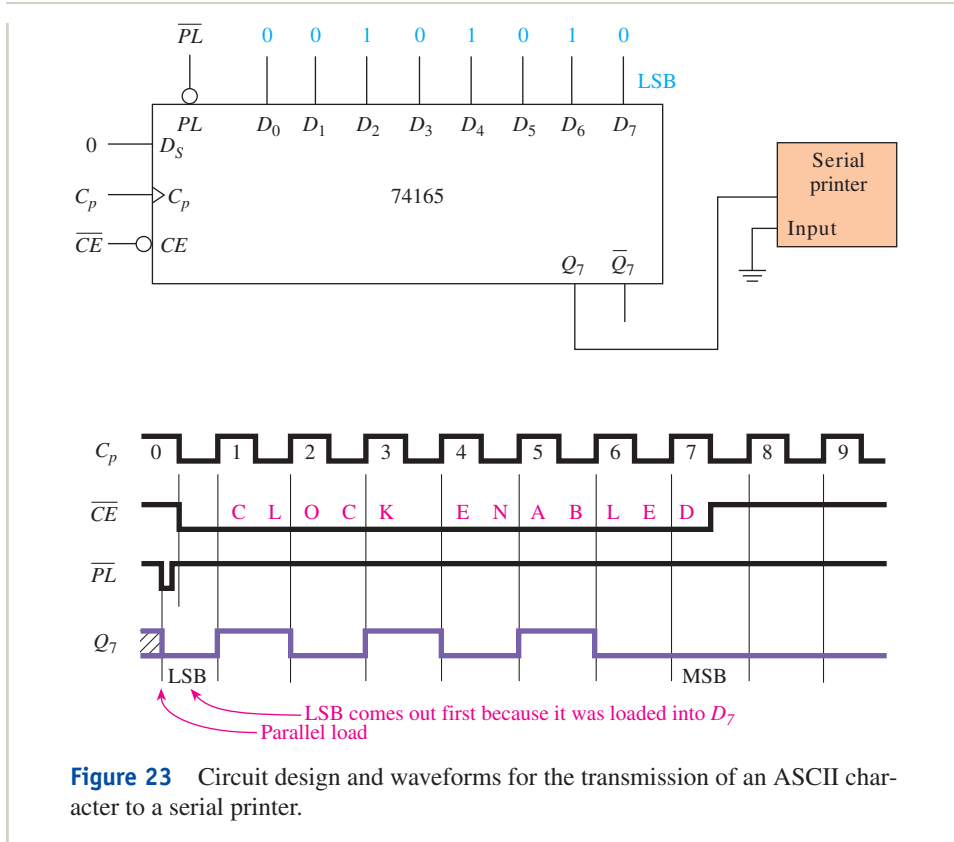

Figure 23 Circuit design and waveforms for the transmission of an ASCII character to a serial printer.
Solution: The circuit design and waveforms are shown in Figure 23. The 74165 is chosen for the job because it is an 8-bit register that can be parallel loaded and then shifted synchronously by the clock input to provide the serial output to the printer.
During pulse 0, the register is loaded with the ASCII code for an asterisk (the LSB is put into D_7 because we want it to come out first). The clock input is then enabled by a LOW on \overline{CE} (**Clock Enable**). Each positive pulse on C_p from then on will shift the data bits one position to the right. After the eighth clock pulse (0 to 7), the printer will have received all 8 serial data bits. Then, the \overline{CE} line is brought HIGH to disable the synchronous clock input. To avoid any racing problems, the printer will read the Q_7 line at each negative edge of C_p so that the level will definitely be a stable HIGH or LOW, as shown in Figure 23.
18. How is the \overline{CE} input used on the 74165 in Figure 23?